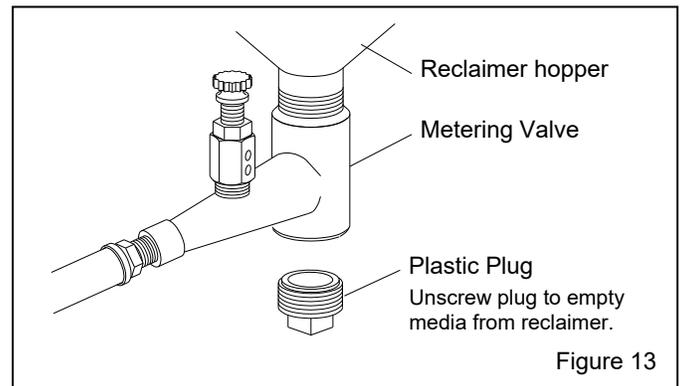

Figure 13
4.2 Media Unloading – Figure 13